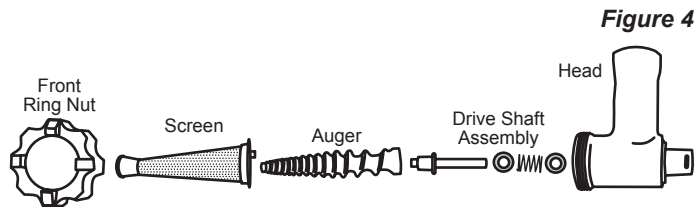

Figure 4
5. Insert the square end of the **Drive Shaft** into the corresponding slot in the **Auger** (figure 4).